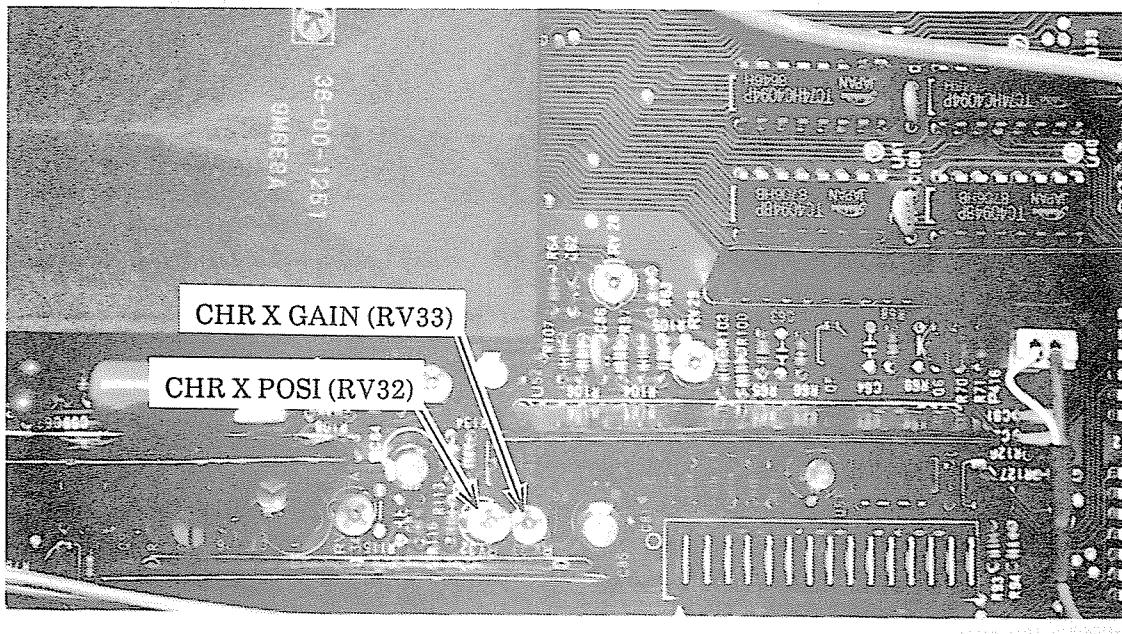

Fig. 4-14 Adjustment positions of CHR X GAIN (RV33) and CHR X POSI (RV32)
- (4) Confirm that the distance between the two cursors is  $10 \text{ DIV} \pm 0.1 \text{ DIV}$ . If it is not, adjust CHR X GAIN (RV33) on board A4 shown in Fig.4-14.
- (5) Confirm that the positions of the two cursors are within  $\pm 0.1 \text{ DIV}$  of the 10 DIV point on the horizontal axis of the CRT screen. If they are not, adjust CHR X POSI (RV32) on board A4 shown in Fig.4-14.